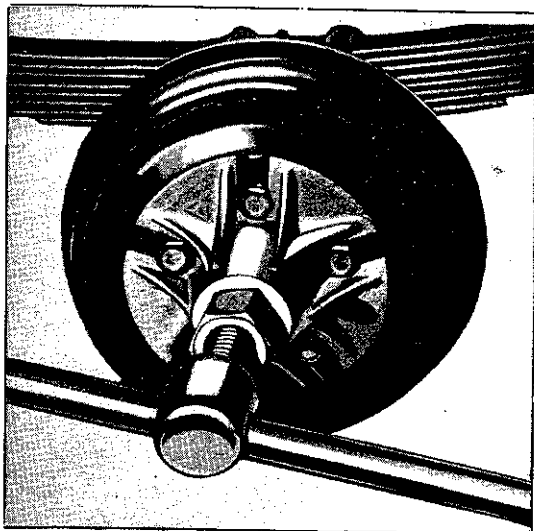

FIG. 254—WHEEL HUB PULLER
- Use a puller to remove the wheel hub. (Tool C-319 shown in Fig. 254.)